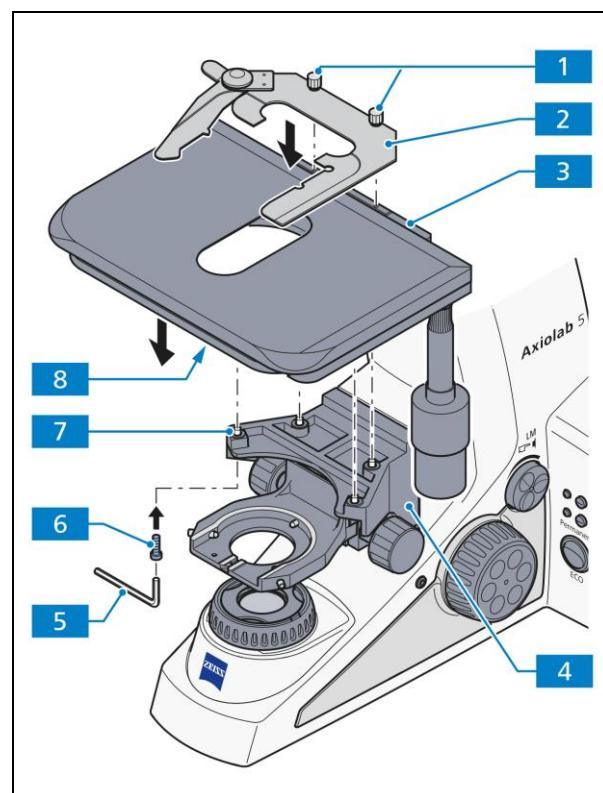

Fig. 3-8 Installing a mechanical stage
- Loosen the two clamping screws (Fig. 3-8/1) of the specimen holder (Fig. 3-8/2) and take off the specimen holder.
- Remove the four fastening screws (Fig. 3-8/6) on the stage carrier (Fig. 3-8/4) using an Allen wrench (AF 3) (Fig. 3-8/5).
- Remove stage (Fig. 3-8/3) upwards from the stage carrier.
- Place the stage (Fig. 3-8/3) on the stage carrier (Fig. 3-8/4) so that the threaded holes on the bottom of the stage (Fig. 3-8/8) are positioned above the stage carrier openings (Fig. 3-8/7).
- Insert four fastening screws (Fig. 3-8/6) through the stage carrier from below and screw them into the bottom of the stage.
- Place the specimen holder (Fig. 3-8/2) on the stage and fasten the two clamping screws (Fig. 3-8/1).